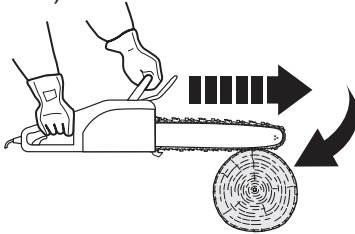

Fig.27
1. Pinching of the saw chain (3) along the bottom of the guide bar (4) may pull the product forward away from the operator (Fig. 27).